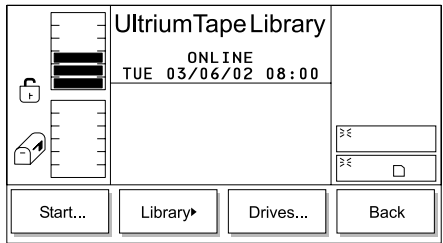

Figure 257. Service Menu
2. Press the button below the **Service** softkey. The Service Menu displays (see Figure 257 on page 190).